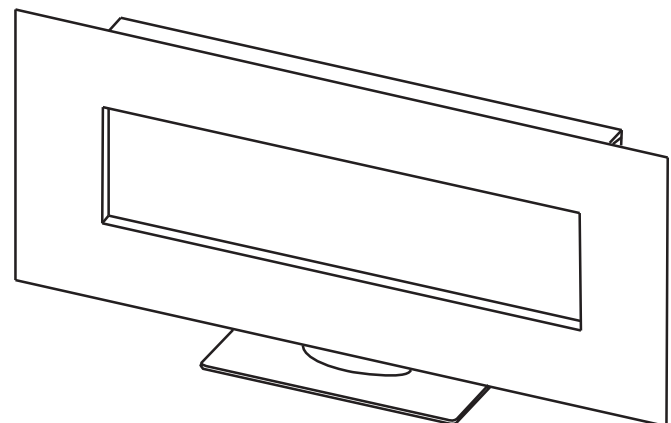

Fig. 4
- Check if the glass stand is secured properly. Ensure appliance is standing straight and still (**Fig. 4**).